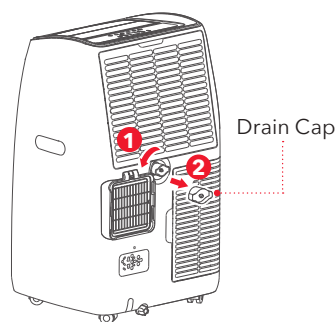

Fig. 22
2. Remove the drain plug (► Fig. 22). While doing this operation, some residual water may spill so please have a pan ready to collect the water.